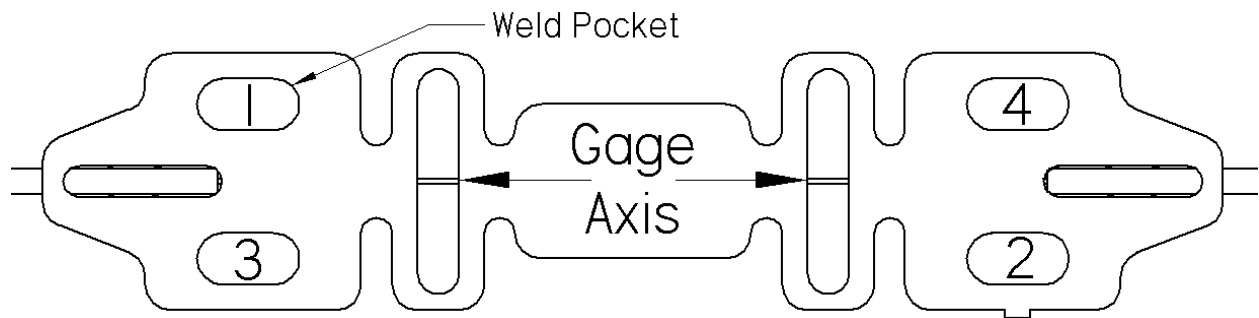

Figure 2 – Weld Location
- Position the gage on the surface to be tested. Align the center axis of the gage with the strain axis to be measured. The gage may be held into position with cellophane tape. When applying tape, do not cover weld pockets. Figure 2 shows the gage axis and weld sequence.